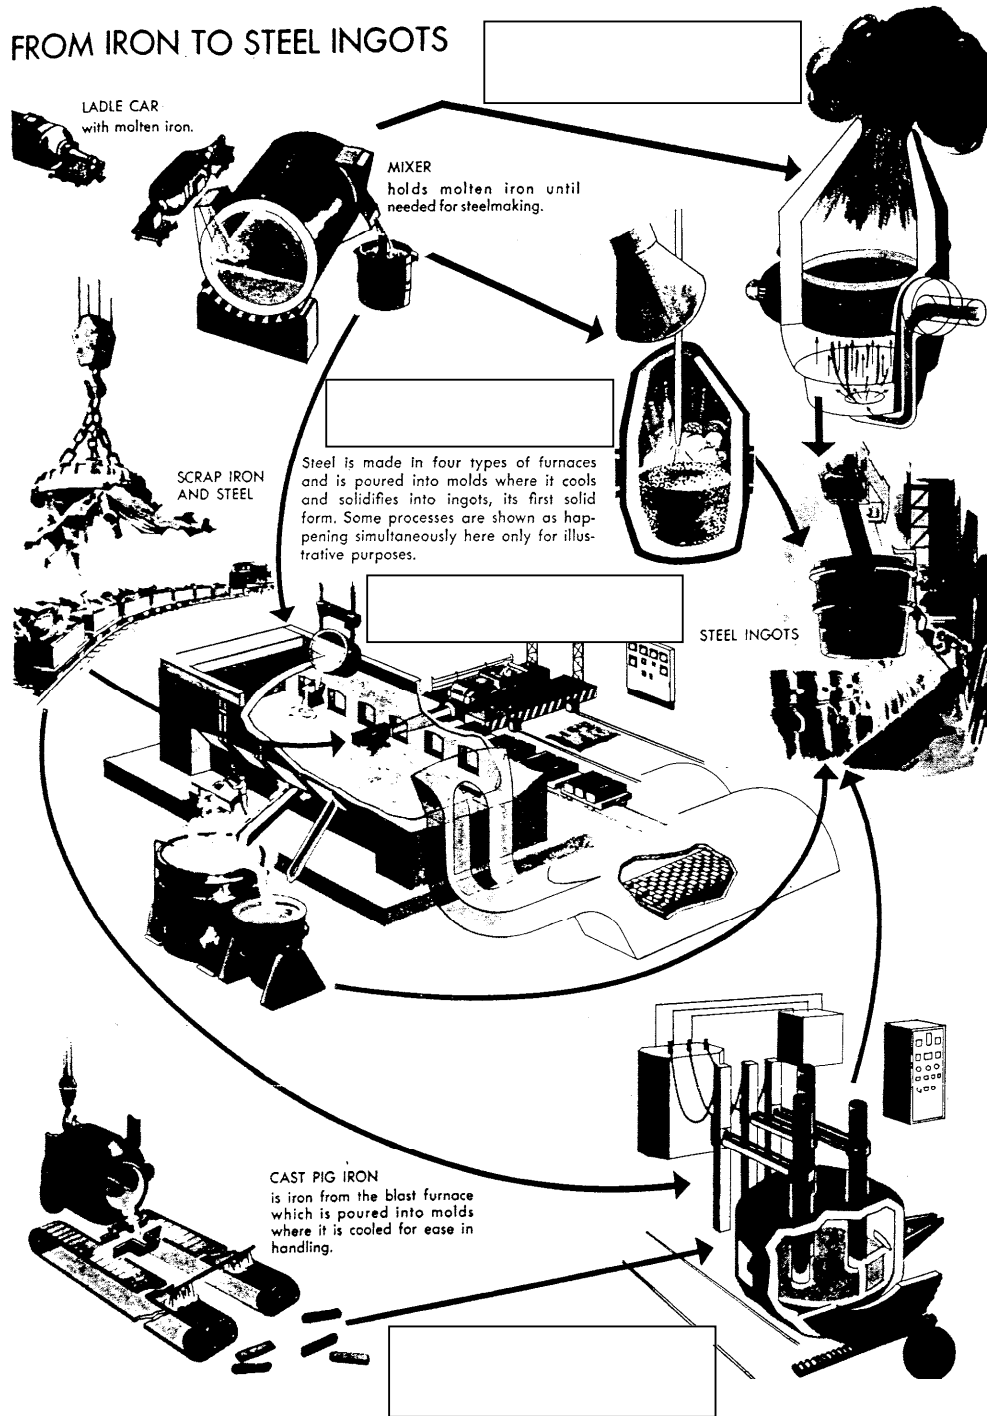

Figure 2: Production of Steel
- (a) In the Fabrication and Joining Warehouse, there are several types of material forms are stocked. Name and sketch **FIVE (5)** of them.
- (b) The Figure 2 is the second stage of making iron to steel ingots. Iron will be melted by the furnaces before it becomes steel ingots. Name each type of furnaces.